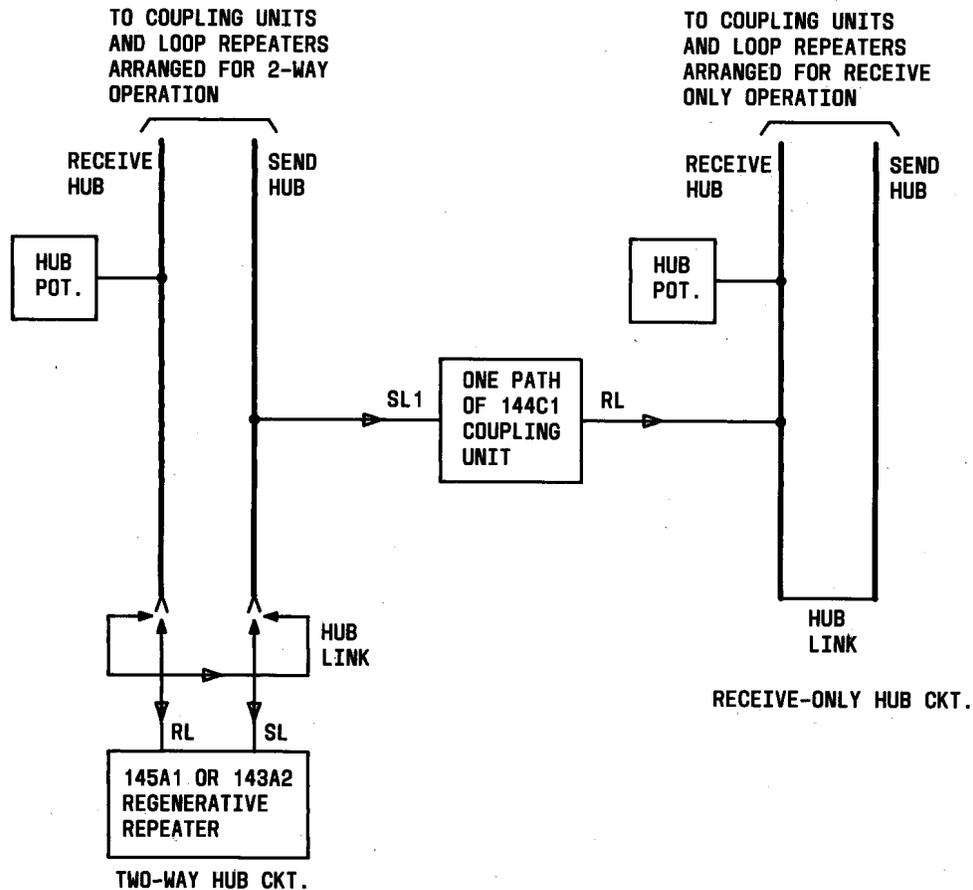

Fig. 2—Connection of Two-Way Hub Circuit to Receive—Only Hub Circuit
3.01 The 144C1 coupling unit may be used to repeat signals from one hub to a second hub. For this application, the coupling unit receives the regular +60 volt mark/-30 volt space hub voltages from either a hub potentiometer or from the output of a regenerative repeater. The output of the coupling unit connects to a hub potentiometer. Figures 2 and 3 show two examples of how the 144C1 coupling unit may be used to interconnect half-duplex hub circuits. Other specific applications are shown on various serviceboard BSPs and SD drawings.
3.02 Figure 2 shows the 144C1 coupling unit interconnecting a hub circuit of receive only legs to a two-way, half-duplex hub circuit of the same concentration group. Interconnection of two or more hubs in this manner is occasionally necessary in order to split a hub to reduce electrical capacity to ground. For simplification, Fig. 2 shows only one path of the 144C1 coupling unit in use. If needed, the other path of the coupling unit may